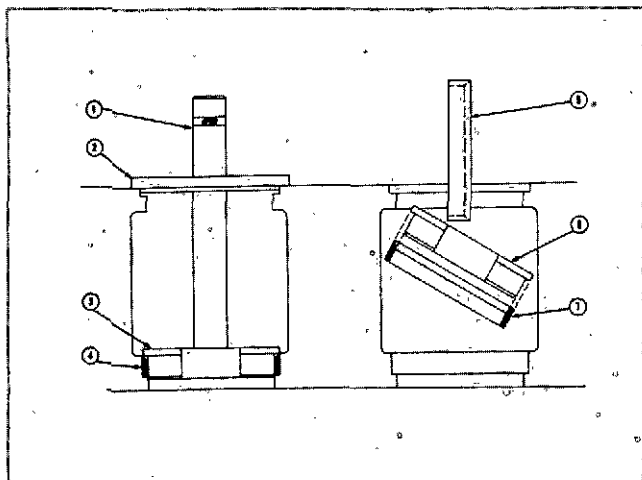

Fig. 1-1-26, V40155. Installation of 195778 sleeve
2. Set sleeve (4, Fig. 1-1-26) 195778 on deck of cylinder block as shown in (5).
4. Install sleeve driver into sleeve (6) when in position shown in (7).